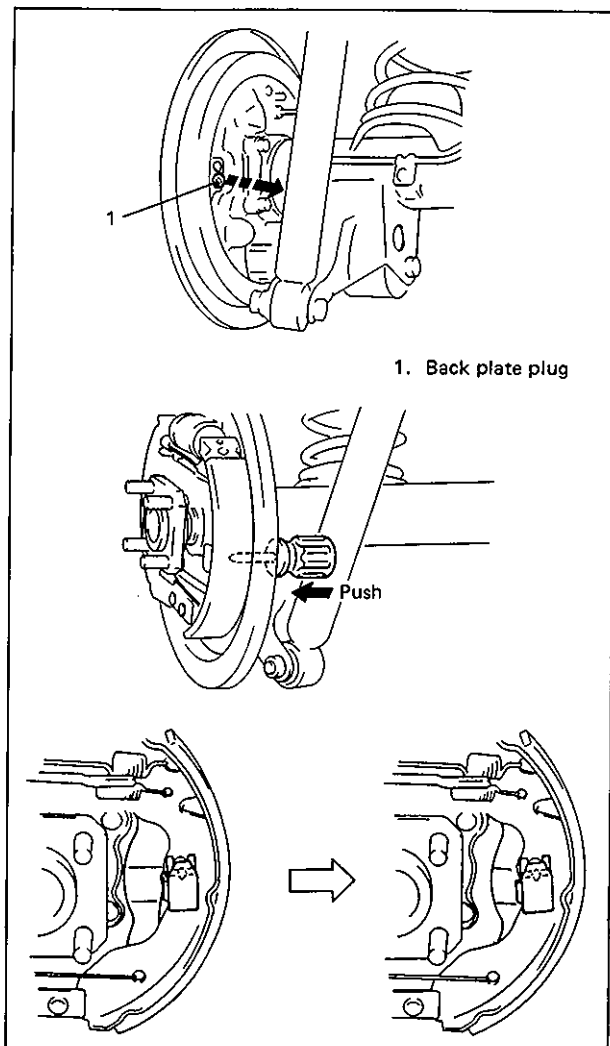

Fig. 5-70
- 5) Install brake back plate plug. (Refer to Fig. 5-70.)